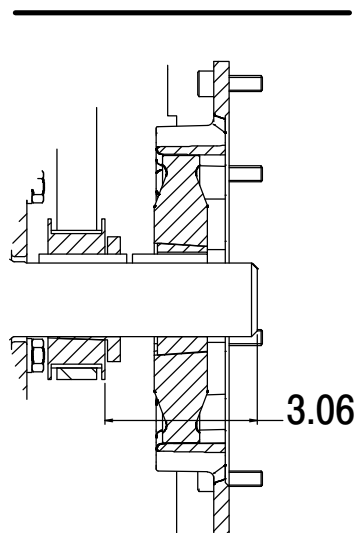

Figure 9. Drive Sprocket Positioning
Install the inboard key supplied with bushing (13) making sure to leave room in the keyway for the drive key (5, Figure 4). Install the sprocket (14) and bushing (13) on the shaft to the dimension shown in Figure 9.
When properly installed to the dimension shown in Figure 9, the key (5, Figure 4) **will not** extend fully through the bushing. This is an acceptable fit for this application.
Install the shaft key (5, Figure 4) in the shaft keyway. Align the keyway in the bushing (2) with the shaft key, and slide the bushing onto the shaft to the dimension shown in Figure 9. Rotate the flexible portion of the coupling until the tapped holes for the two setscrews align with those in the bushing, and install the setscrews.